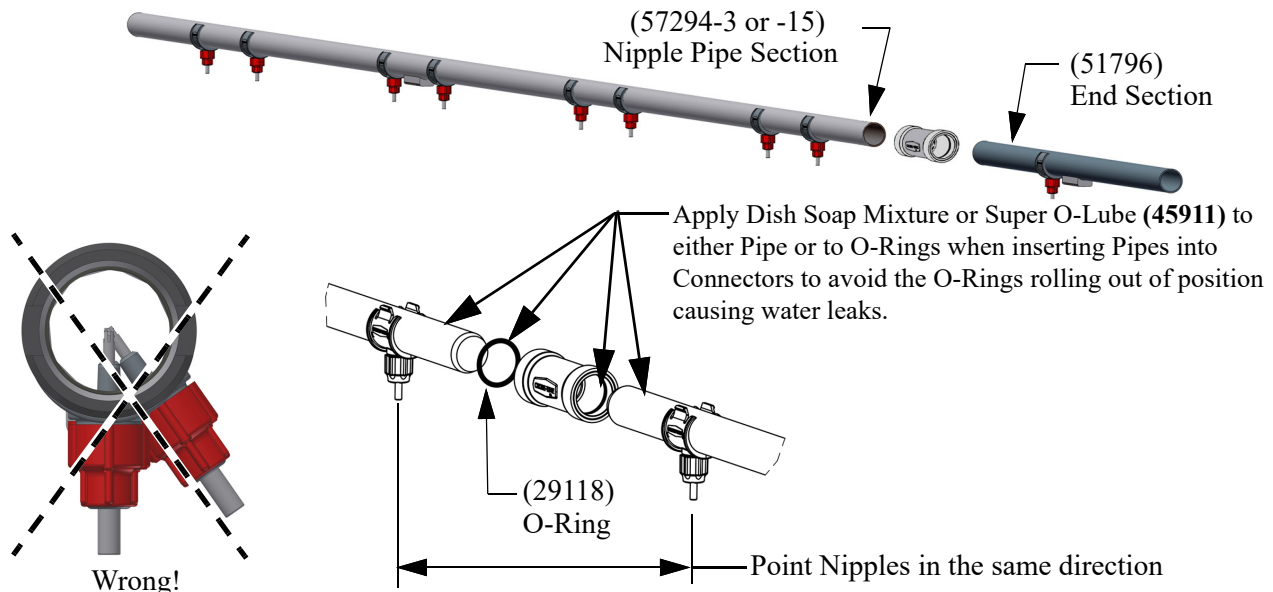

Figure 10. Water Pipe Assembly
1. Attach a short End section (51796) to a long section of Nipple Pipe using a (56373) Pipe Coupling **as shown**. The Nipples all must point the same direction. Install o-rings, (29118) in the Pipe Coupling and lubricate before putting the pipes together. (See Figure 10.)